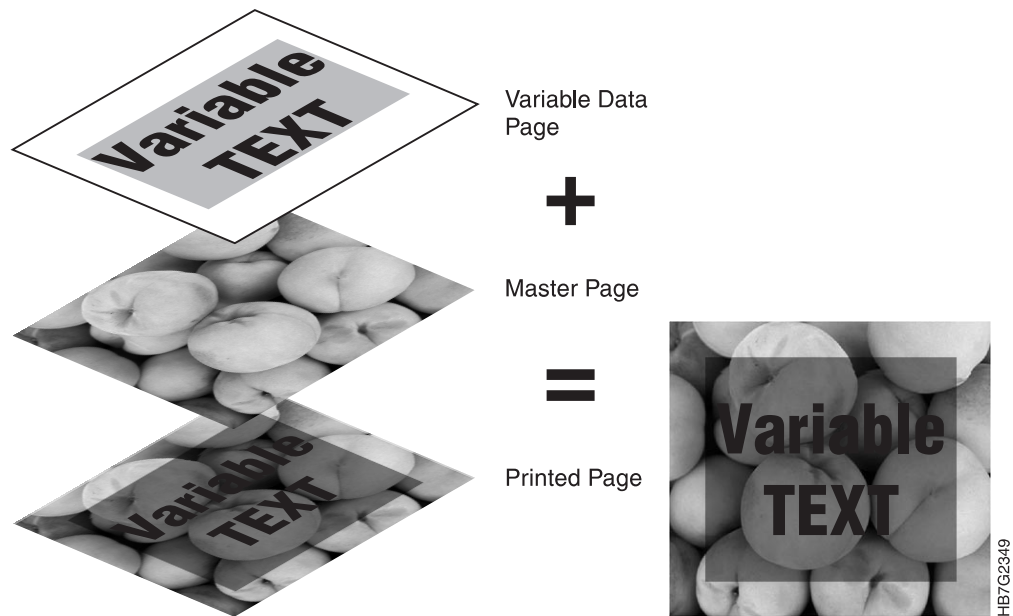

Figure 342. Sample "Overprint" Job Type (VDF2)
- VDF2** Overprints the variable data on the master page. The color of the variable data is combined with the color of the master page. Use this method when the knockout method does not produce the desired effect or when you want the colors of the variable data to be merged with the colors of the master page. See Figure 342.